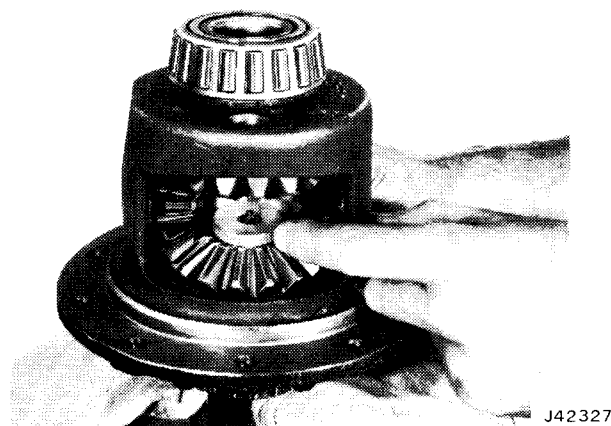

Fig. 10-67 Installing Step Plate
(10) Remove pinion mate shaft using hammer and brass drift.
(11) Install step plate in lower differential side gear (fig. 10-67).